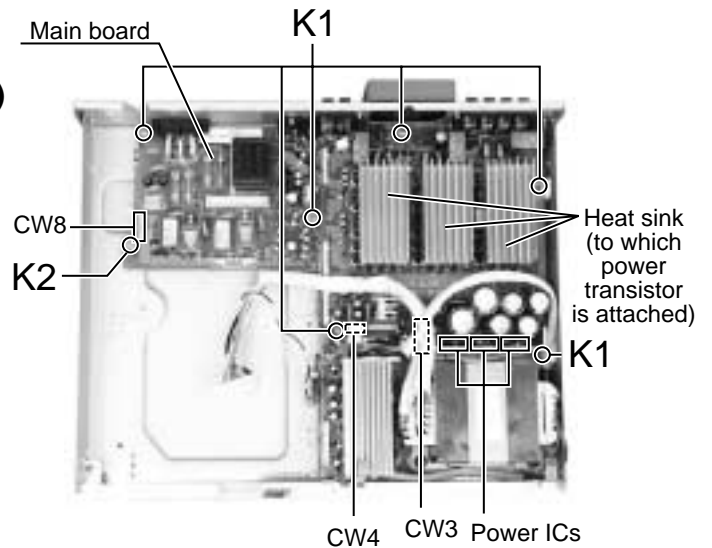

Fig.10
**■ Removing the main board (See Fig.10)**
**■ Removing the power transistor & power IC (See Fig.10 and 11)**